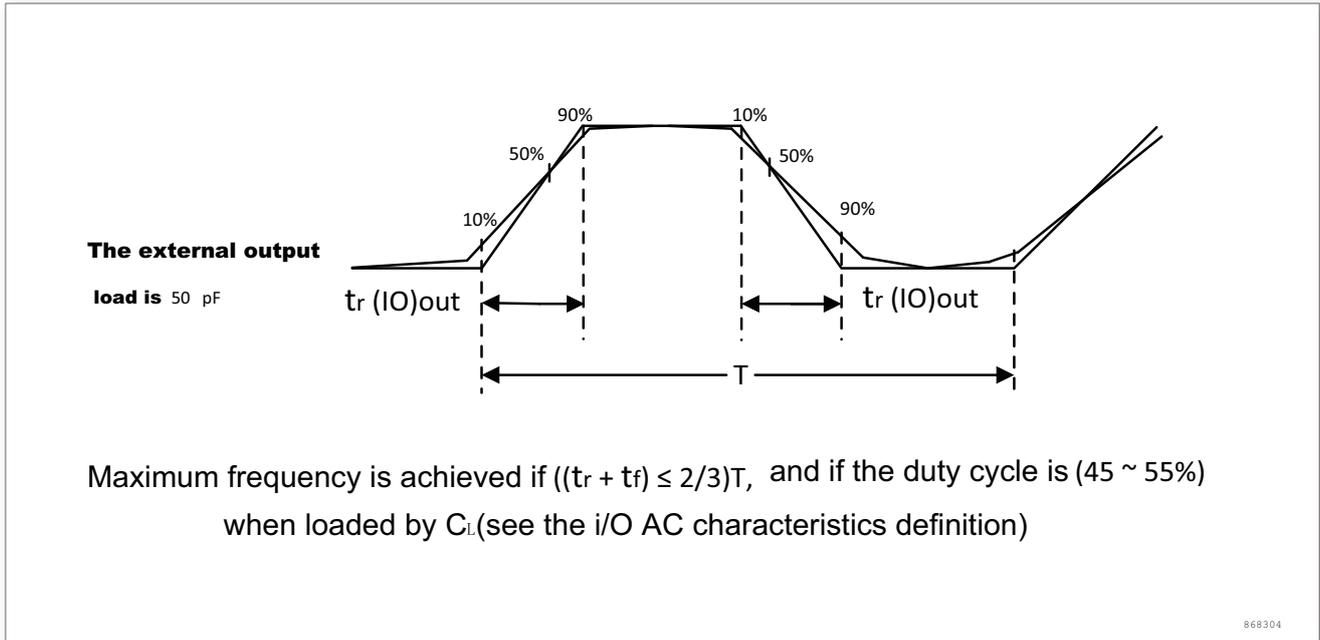

Figure 12. I/O AC characteristics
The definitions and values of the input and output AC characteristics are given in figure 12 and Table 31, respectively.
2. The maximum frequency is defined in figure 12.